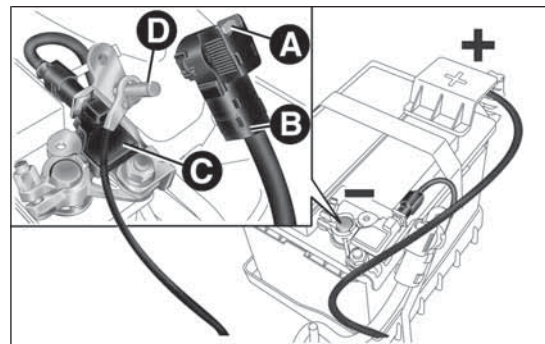

fig. 158
- ☐ disconnect the connector A fig. 158 (pressing the button B) from the sensor C monitoring the battery conditions, on the negative pole D of the battery;